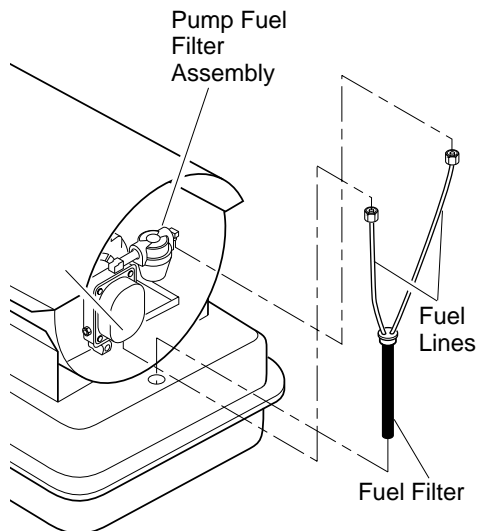

Figure 15 - Removing Tank Fuel Filter
1. Disconnect fuel lines from pump and pump fuel filter assembly with 7/16" wrench (see Figure 15).